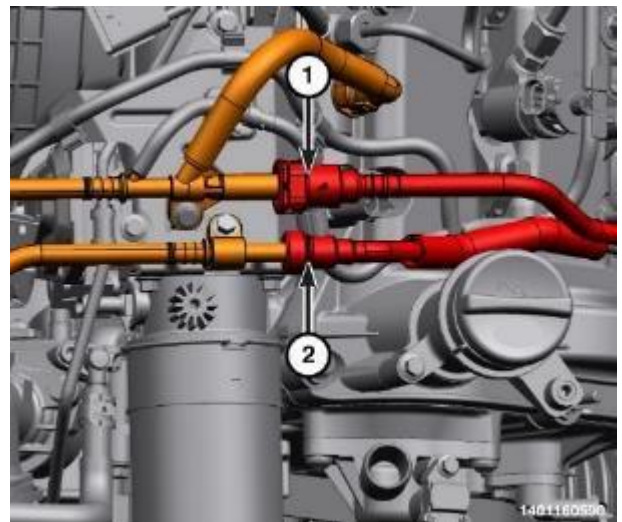

Figure 73 – Safety Clip
- 125. Install the fuel line supply safety clip (1) (Figure 73).